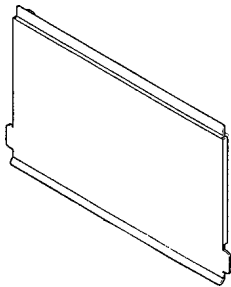
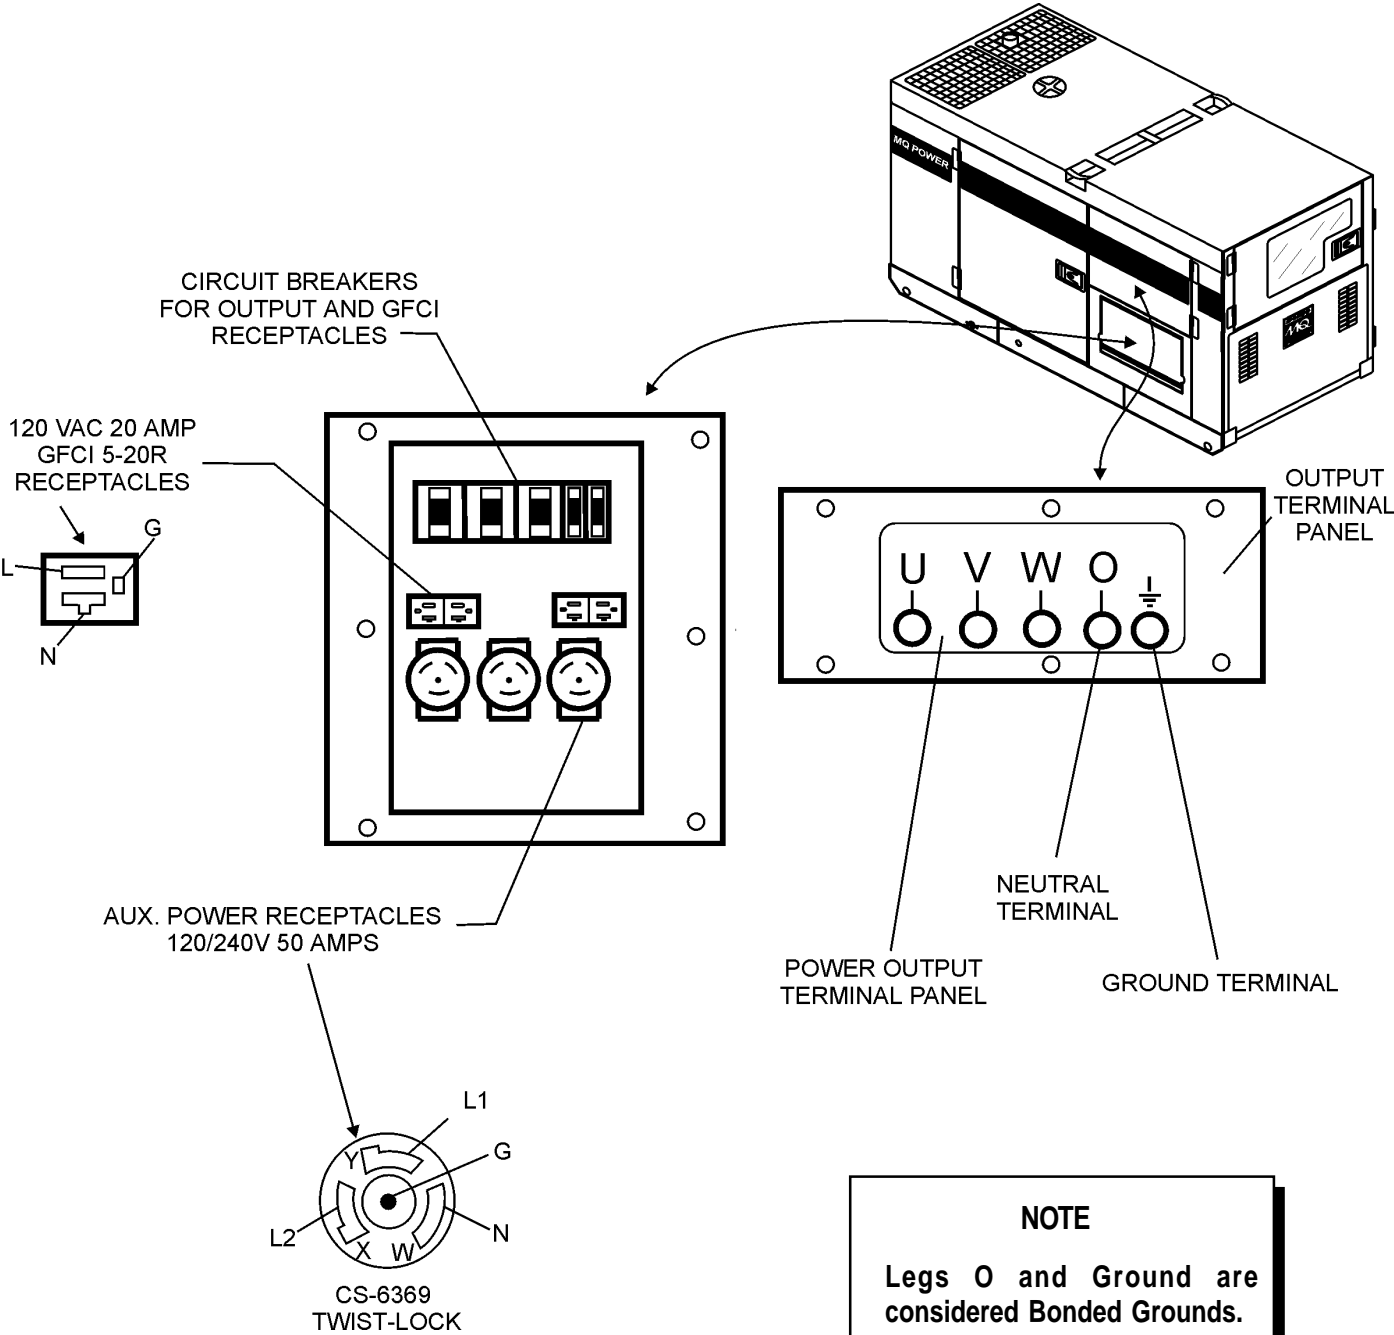

FIGURE 11. Output Terminal Cover
FIGURE 14. Output Terminal Panel
The Output Control Panel (See Figure 14) is located on the right hand side (left from control panel) of the generator. The UNV lugs are protected by a face plate cover that can be secured in the close position by a pad lock. (See Figure 11).
**Twist Lock Dual Voltage Receptacles** - To use these receptacles, place the voltage selector switch in the single phase 240/120 voltage position and adjust the output voltage to 240 volts with the voltage regulator on the Control Panel (see figure 14). Place the voltmeter change-over switch to the U-W position and the ammeter change-over switch to the U or W to read the output.